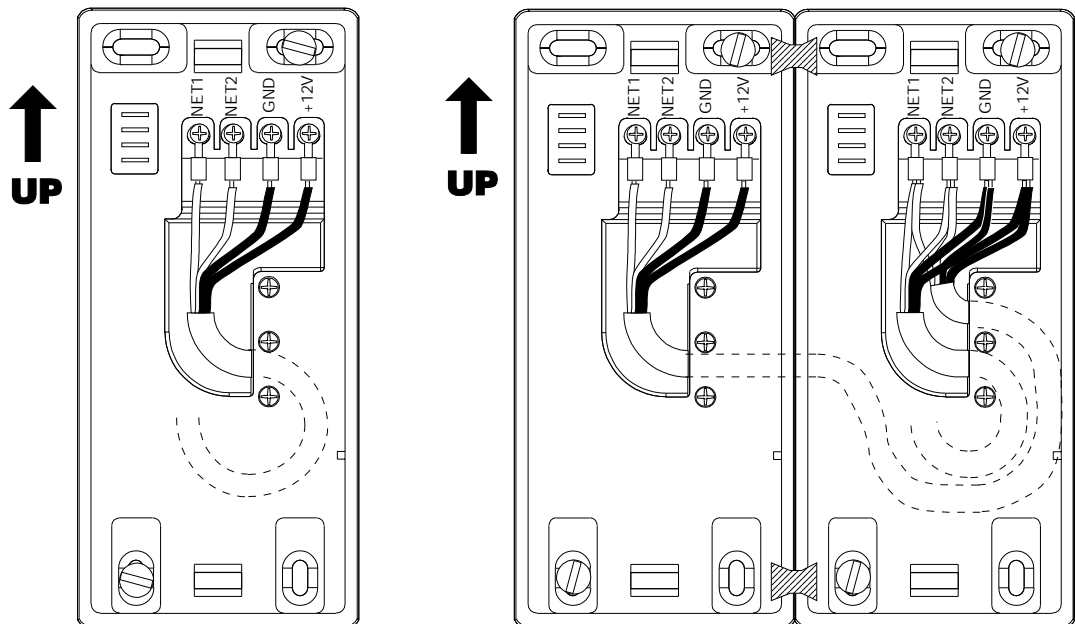

Figure 9: Wall position – vertical assembly
5. Fasten the cable crimp to the contacts in the direction shown in Figure 9.